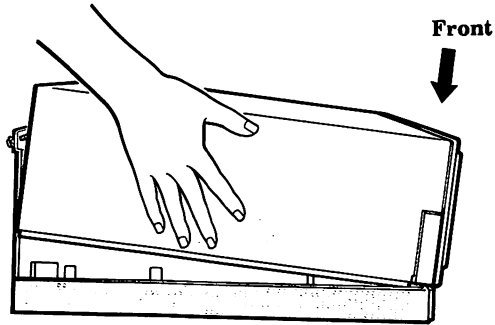

Figure 2-5. Replacing the top cover.
- . Lower the front of the cover into place. Press in on the sides of the cover as you lower them into place, making sure the cover edges fit inside the processor frame. See Fig. 2-5.